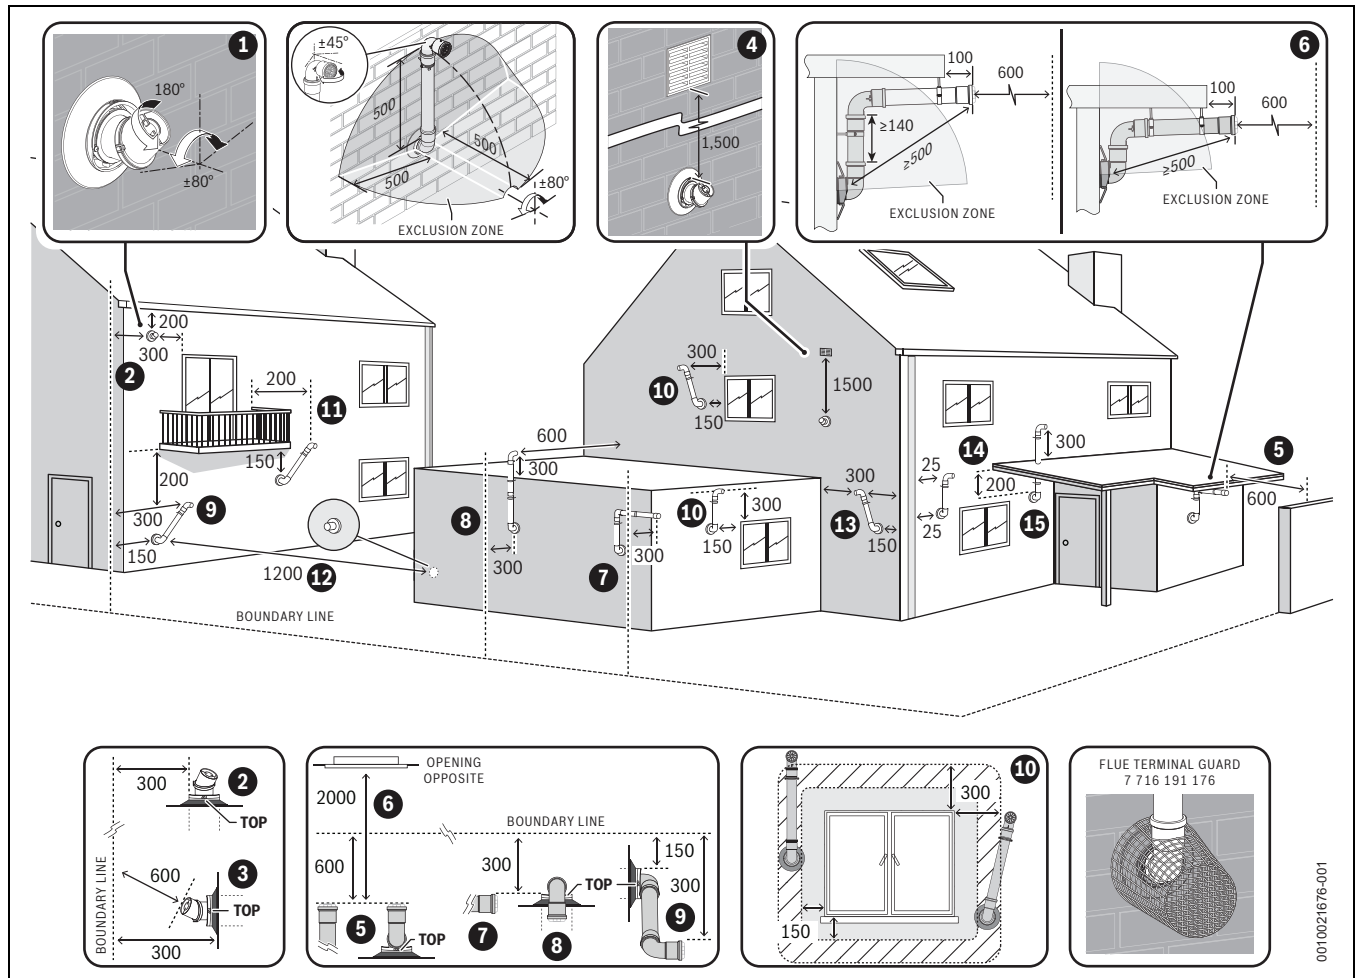

Fig. 33 Plume re-direct and plume management terminal positions
- ▶ Refer to “Horizontal flue terminal positions” for all concentric flue terminal positions unless the flue position is specified in figure 33 “Plume re-direct and plume management terminal positions”.
Key to figure 33 - Plume re-direct terminal positions:
Key to figure 33 - Plume management terminal positions: